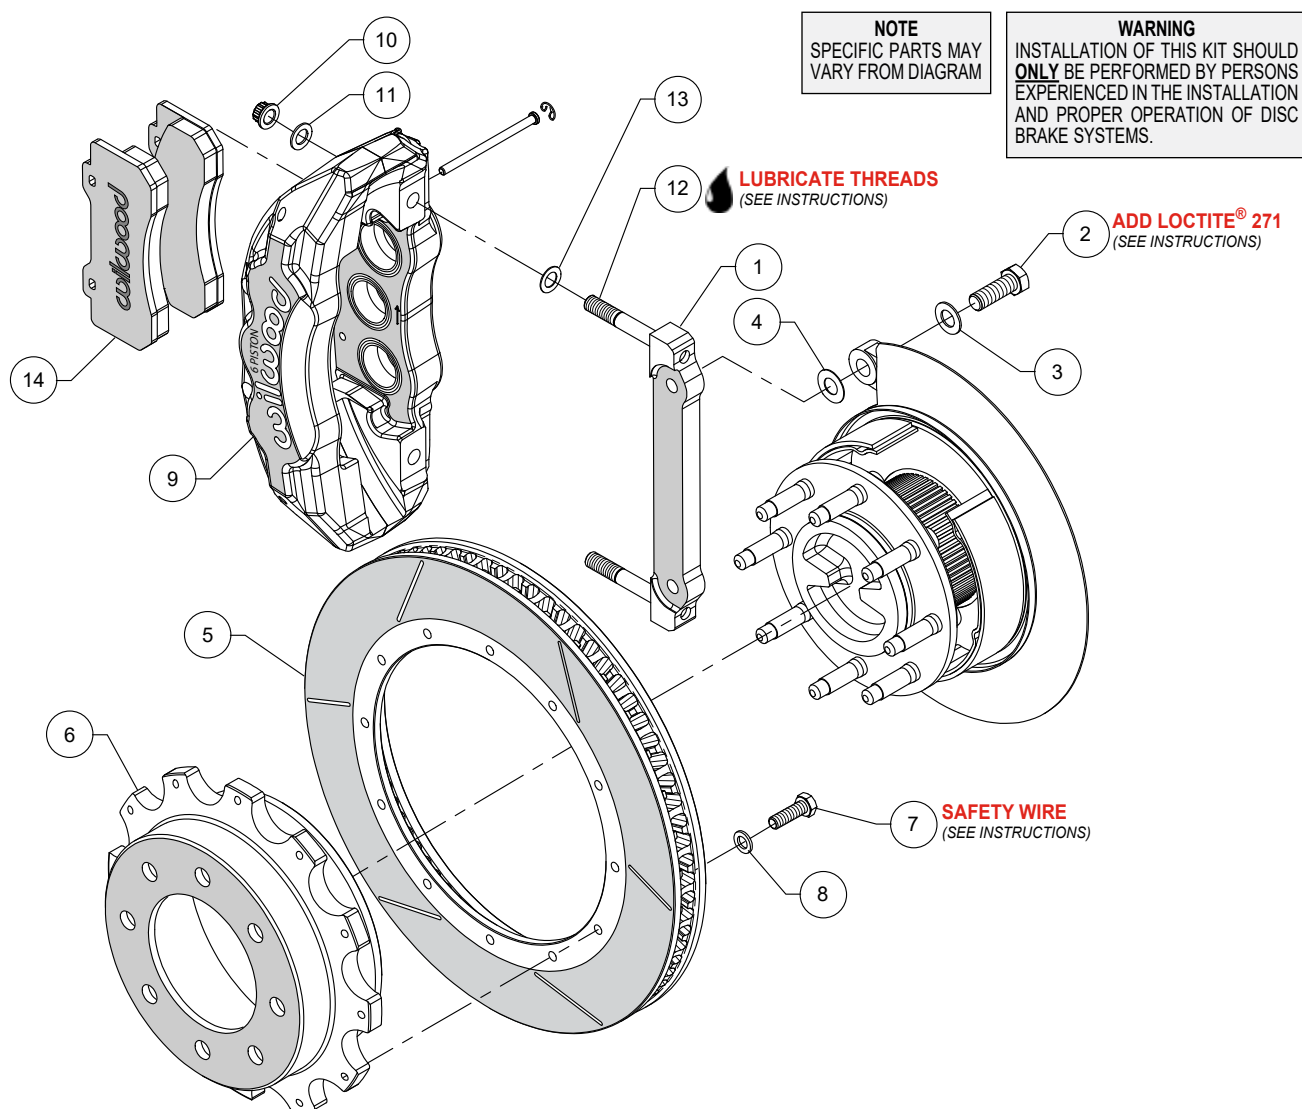
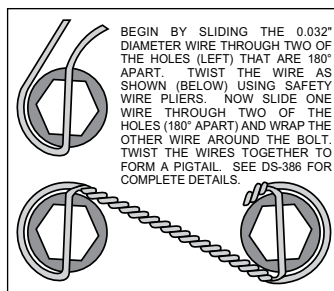

Figure 1. Typical Installation Configuration
Figure 3. Safety Wire Diagram
NOTE: Numbers in parenthesis refer to the parts list and Figure 1 on the preceding pages.
- The caliper mount bracket (1) should initially be installed with clean, dry threads on the mounting bolts. Orient the bracket as shown in Figure 1 and Photo 1, and install using bolts (2) and washers (3). Initially place one .029 thick shim (4) on each bolt between the bracket and upright, Figure 1. Temporarily tighten the mounting bolts. **NOTE:** The bracket must fit squarely against the mount bosses on the upright. Inspect for interference from casting irregularities, machining ridges, burrs, etc. Later, after the caliper alignment has been checked, the mount bolts will be secured using red *Loctite*® 271.
- Orient the rotor (5) and the hat (6) as shown in Figure 1 and Photo 2. Attach rotor to hat using bolts (7) and washers (8). Apply red *Loctite*® 271 to the bolt threads and torque to 25 ft-lbs using a criss-cross pattern. The bolts must be safety wired using standard 0.032 inch diameter stainless steel safety wire as shown in Figure 3. Please refer to Wilwood's data sheet DS-386 (available at www.wilwood.com/Pdf/DataSheets/ds386.pdf) for complete safety wire installation instructions.
- NOTE:** This kit contains distinct right and left hand calipers that must be mounted in a specific direction, as described below. Lubricate the caliper mounting studs (12) with lightweight oil. Initially place one .032" thick shim (13) on each stud as shown in Figure 1 and Photo 3. Mount the caliper (9) onto the bracket (1) using lock nuts (10) and washers (11), Figure 1. Ensure that the caliper is mounted so that the largest pistons are at the rotor exit end of the caliper, in relation to the direction of rotor rotation. Temporarily tighten the lock nuts and view the rotor through the top opening of the caliper. The rotor should be centered in the caliper, Photo 4. If not, adjust by adding or subtracting shims (4) between the bracket and the upright. Always use the same amount of shims on each of the two mounting bolts. Once the caliper alignment is correct, remove the bracket mounting bolts (2) one at a time, apply red *Loctite*® 271 to the threads, and torque to 105 ft-lb.